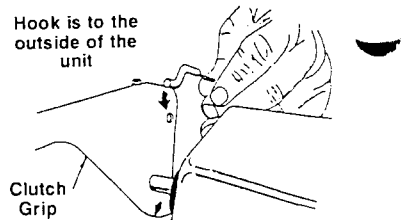

FIGURE 15
- Hook clutch cable in the hole provided in the left hand clutch grip. The hook is to the outside of the unit. See figure 15.